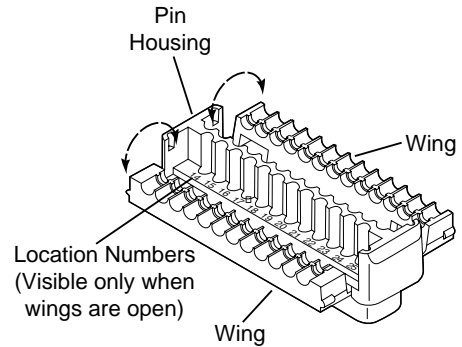

Figure 25
4. Open out both wings of the pin housing (See Figure 25).